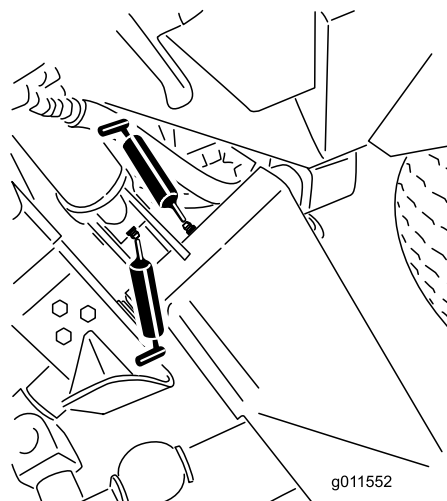
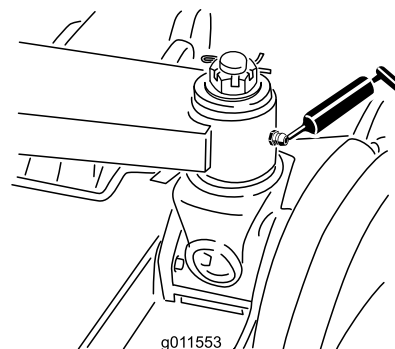

Figure 69
Figure 70
- 6 main lift-arm bushings (Figure 69 and Figure 70)